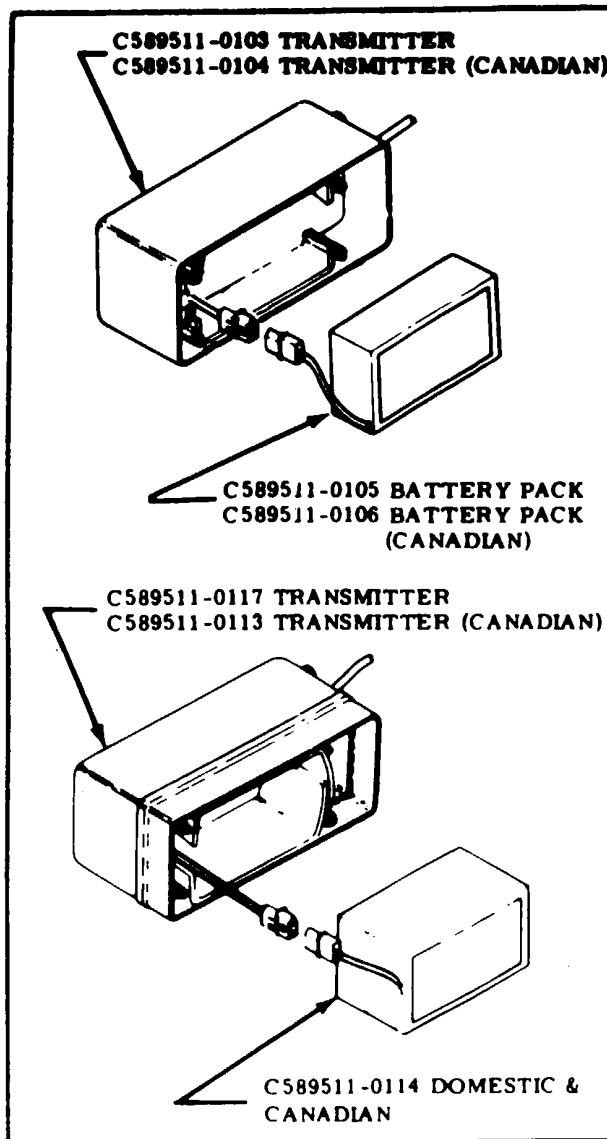

Figure 15-22. BATTERY PACK INSTALLATION.
15-125. REMOVAL AND INSTALLATION OF BATTERY PACK. (Refer to figure 15-22).
- d. Place new battery-pack in the transmitter with four batteries as shown in the case in figure 15-22.
- e. Connect the electrical connector as shown in figure 15-22.